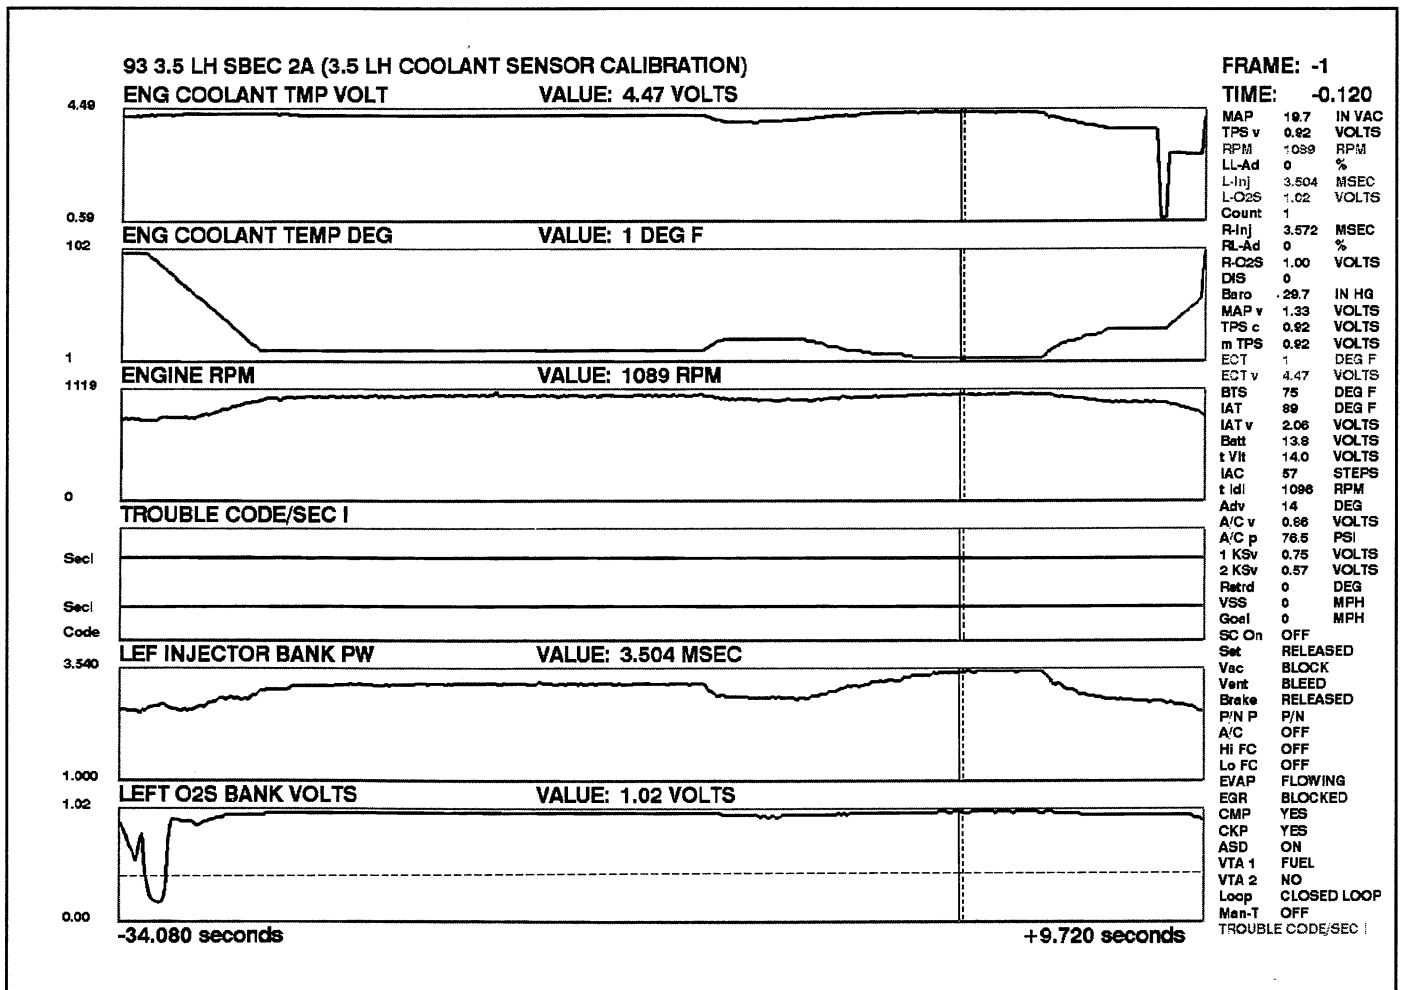

Fig. 5
- Calibration or poor circuit connections - (Fig. 5)